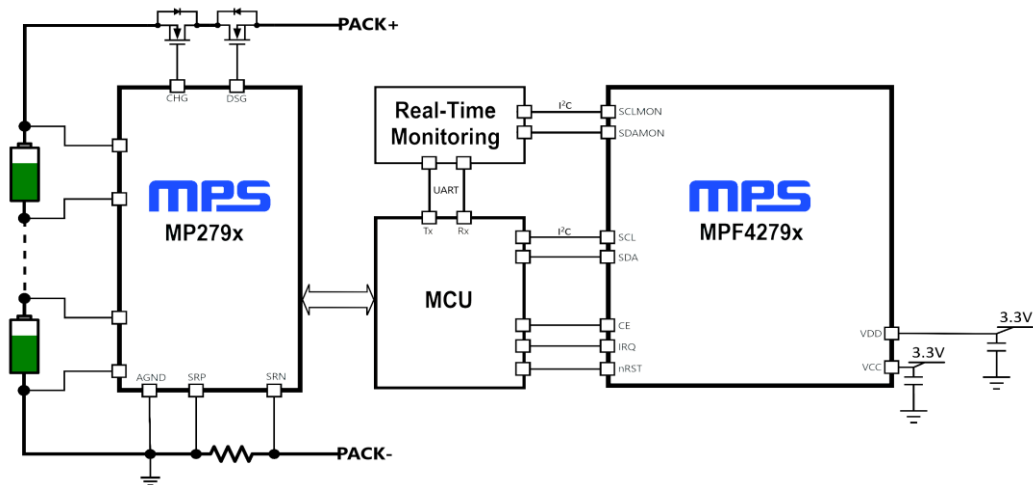

Figure 1: EVKT-BMU1xx Block Diagram Design
The board also features the MPF4279x, a standalone battery fuel gauge (FG) IC that performs state-of-charge (SoC), time-to-full, time-to-empty, and unavailable energy estimation using a custom battery model obtained through exhaustive characterization and voltage, current, and temperature readings. This solution is fast, simple, and easy to configure through the graphic user interface (GUI). Figure 1 shows the EVKT-BMU1xx block diagram.